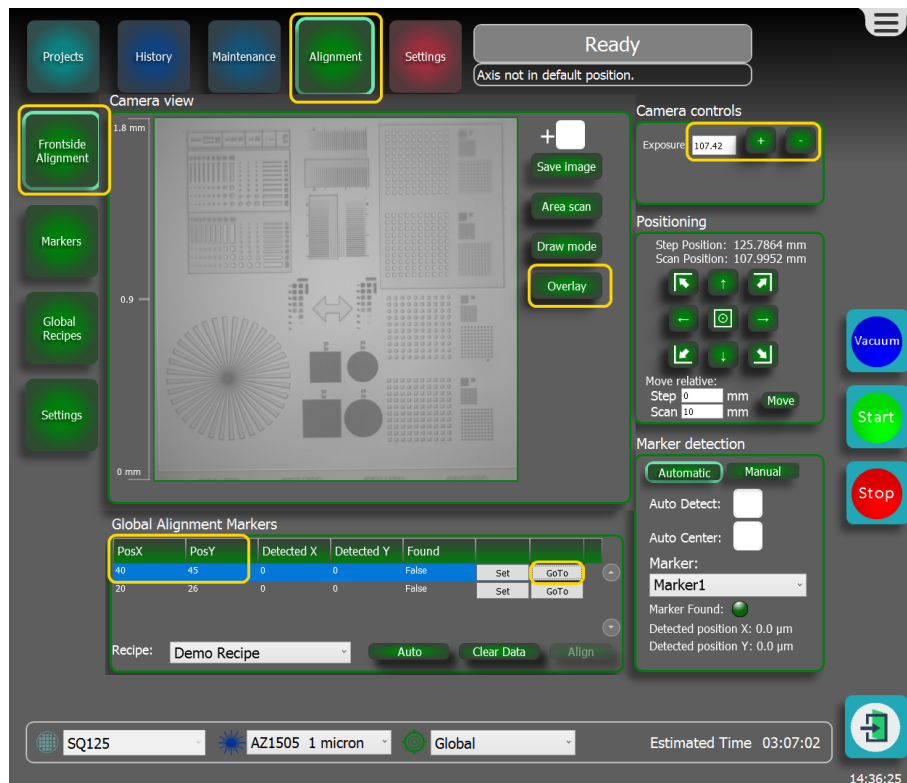

Figure 3-141 Going towards marker position
8. At the right side of the top line, press **GoTo**, see **Figure 3-141 on the next page**.